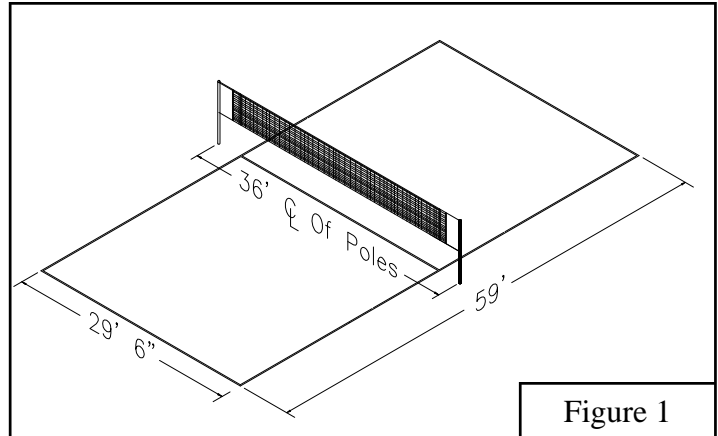

Figure 1
- Using the volleyball court layout, locate and dig two holes 8” in diameter by 17” deep 36 feet apart*. Fill hole with wet premix concrete, insert *Poles* (A), making sure the *Slider Bars* (B) are square to and facing each other. See Figure 1 and 2.